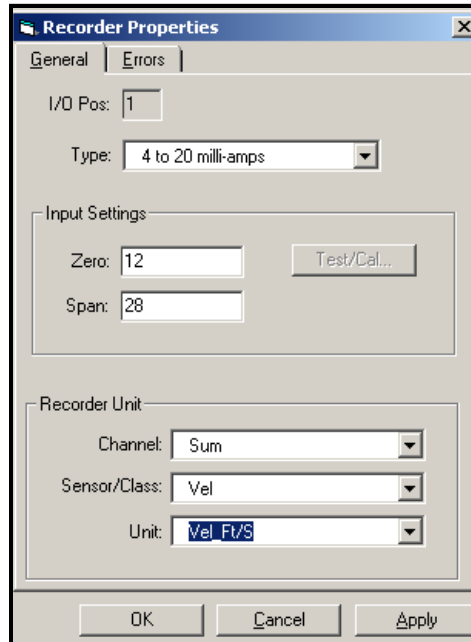

Figure 3-8: Recorder Properties
4. Double-click on Recorder 1 or Recorder 2 to bring up the Analog Output properties window. Under the General tab, select the desired option from the Type drop-down menu (see Figure 3-8 on page 3-10).
- Set the Zero and the Span to the desired values. In the Recorder Unit section, select the desired output for Channel, Sensor/Class and Unit. Click on Apply. The window should look similar to Figure 3-8 below.